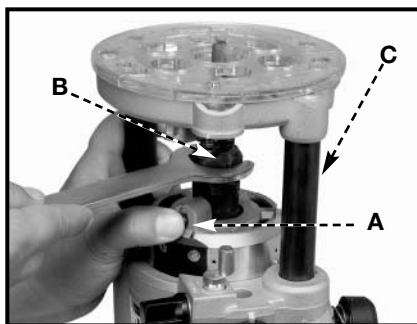
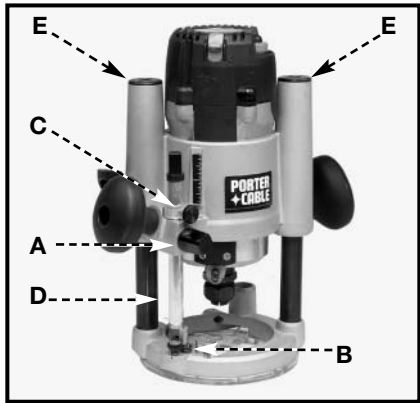
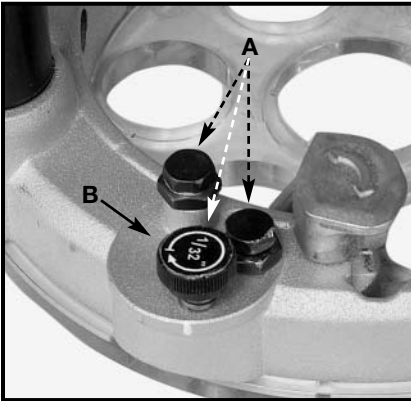
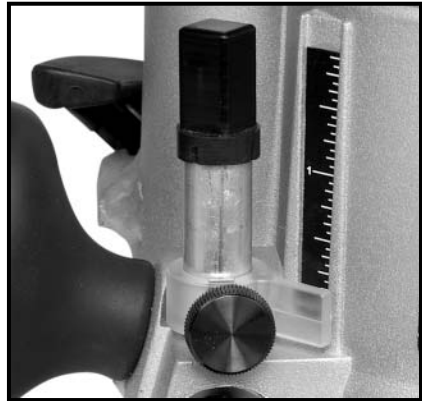

Fig. 8B
Fig. 11
Fig. 12
Fig. 13
1. Stand the router upside down on its motor cap (Fig. 8B).
3. Press the spindle lock button (A) Fig. 8B, and place a wrench on collet nut (Fig. 8B). Tighten firmly.
If you remove the springs from the posts (E) Fig. 11 to use the plunge base in a router table, remove the post plugs carefully. They are spring-loaded and should be removed only when the base housing is in the up position (Fig. 8B).
1. Loosen the depth rod locking knob (A) Fig. 11, and depth indicator knob (C) Fig. 11, allowing the depth rod (D) Fig. 11 to contact one of the turret stops (A) Fig. 12. Normally the deepest desired cut is set with the depth rod resting on the base casting (B) Fig. 11. The other three adjustable stops (A) Fig. 12 may be adjusted to any desired height. Any combination of fixed and/or adjustable stops may be utilized to achieve the desired depths required for a particular job. The adjustable stop (B) Fig. 12 will raise or lower that stop by 1/32" with one full turn of the stop.
3. Tighten the depth-rod locking knob (A) Fig. 11.
4. Position the depth indicator (C) Fig. 11 at the "0" position and tighten the knob (C) Fig. 11.
5. Loosen the depth-rod locking knob (A) Fig. 11, and raise until the indicator aligns with the graduation representing the desired depth of plunge (Fig. 13).